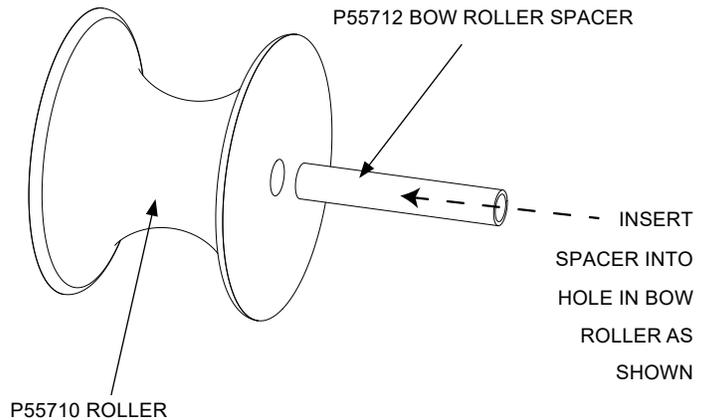

FIGURE 1. ASSEMBLING SPACER INTO ROLLER
- Insert P55712 Bow Roller Spacer into P55710 as shown in Figure 1.